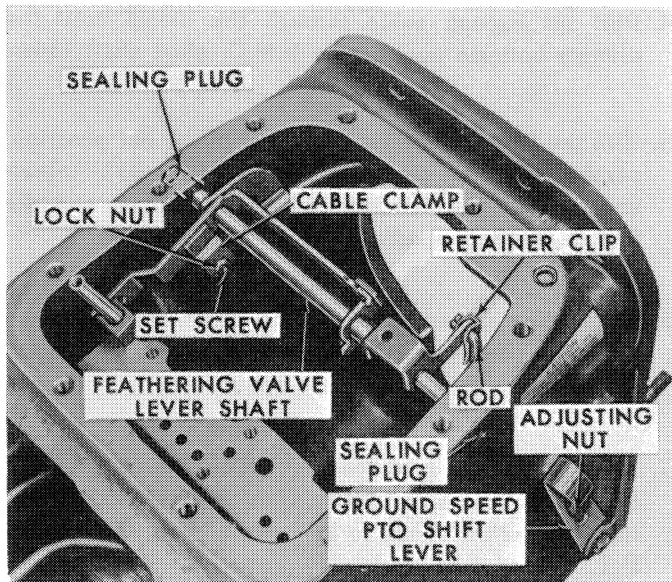

Figure 29
To prevent engaging both the ground speed P.T.O. and the engine P.T.O. at the same time, an interlock is provided, Figures 29 and 30. The interlock consists of a flexible cable, enclosed in a conduit. The cable connects the P.T.O. feathering valve lever and a plunger and bracket arrangement at the ground speed P.T.O. lever.
2. Position the ground speed shift lever in the forward notch to engage the ground speed P.T.O. If sufficient lever travel is not available, loosen the adjusting nut on the lever and reposition the lever plate. See Figure 29.
3. Loosen the lock nut and set screw in the cable clamp, shown in Figure 29.